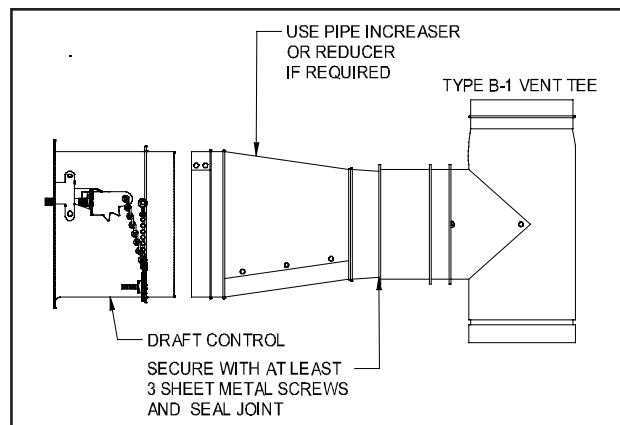

Figure 5
1. Install a vent pipe reducer or increaser into the inner pipe and fasten using sheet metal screws. (See Figure 5)